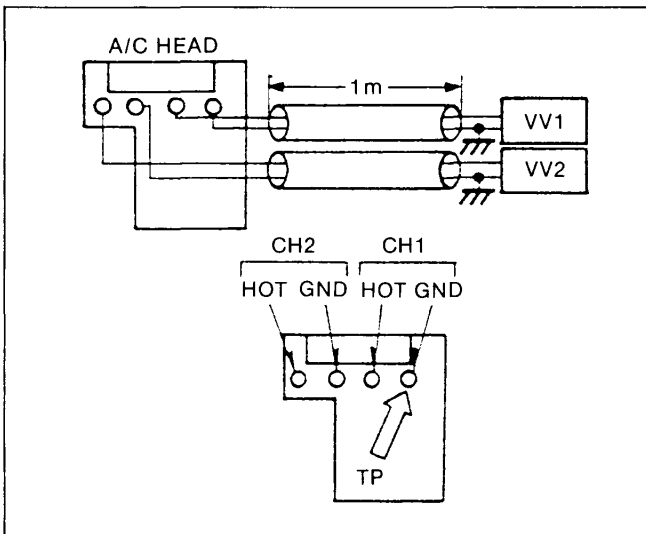

Figure E47
2. Connect the V.T.V.M to the A/C Head as shown in Figure E47.